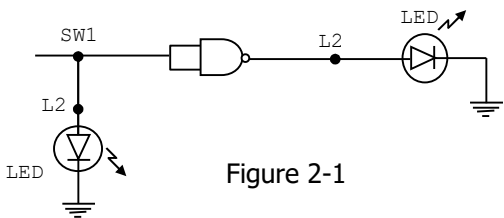

Figure 2-1
2. Connect one of the four gates in the IC as shown in Figure 2-1. The input will come from data switch SW1. You will monitor the input and output states with the L1 and L2 LED indications and your DC voltmeter.